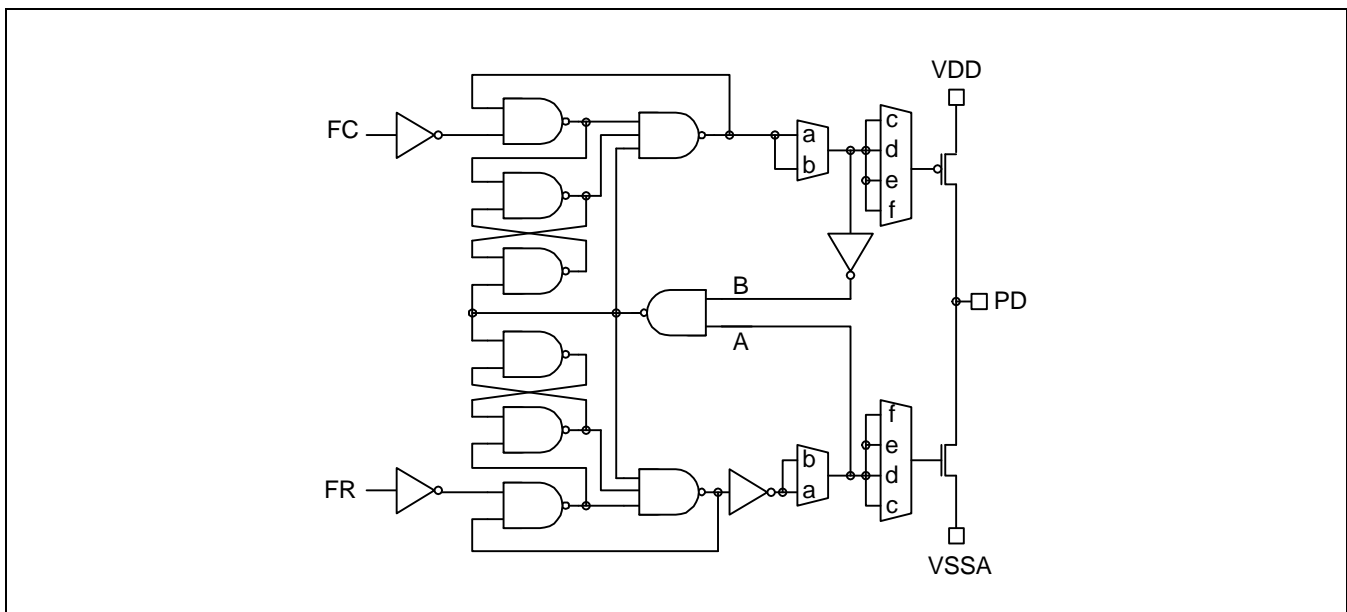

Figure 10. PFD scheme
- differences of deadzone (in Figure. 10)